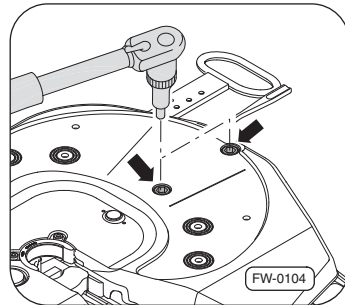

Fig. 24 · Removal of the fifth wheel plate from the bracket fastening
2. Loosen the screws (4x) Fig. 24, –arrow– from the bracket fastening with a suitable tool and dispose of them.